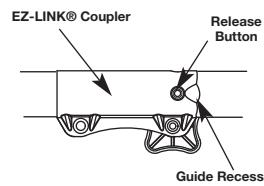

Fig. 12
- NOTE: Aligning the release button with the guide recess will help installation (Fig. 12).
- Press and hold the release button (Fig. 12).